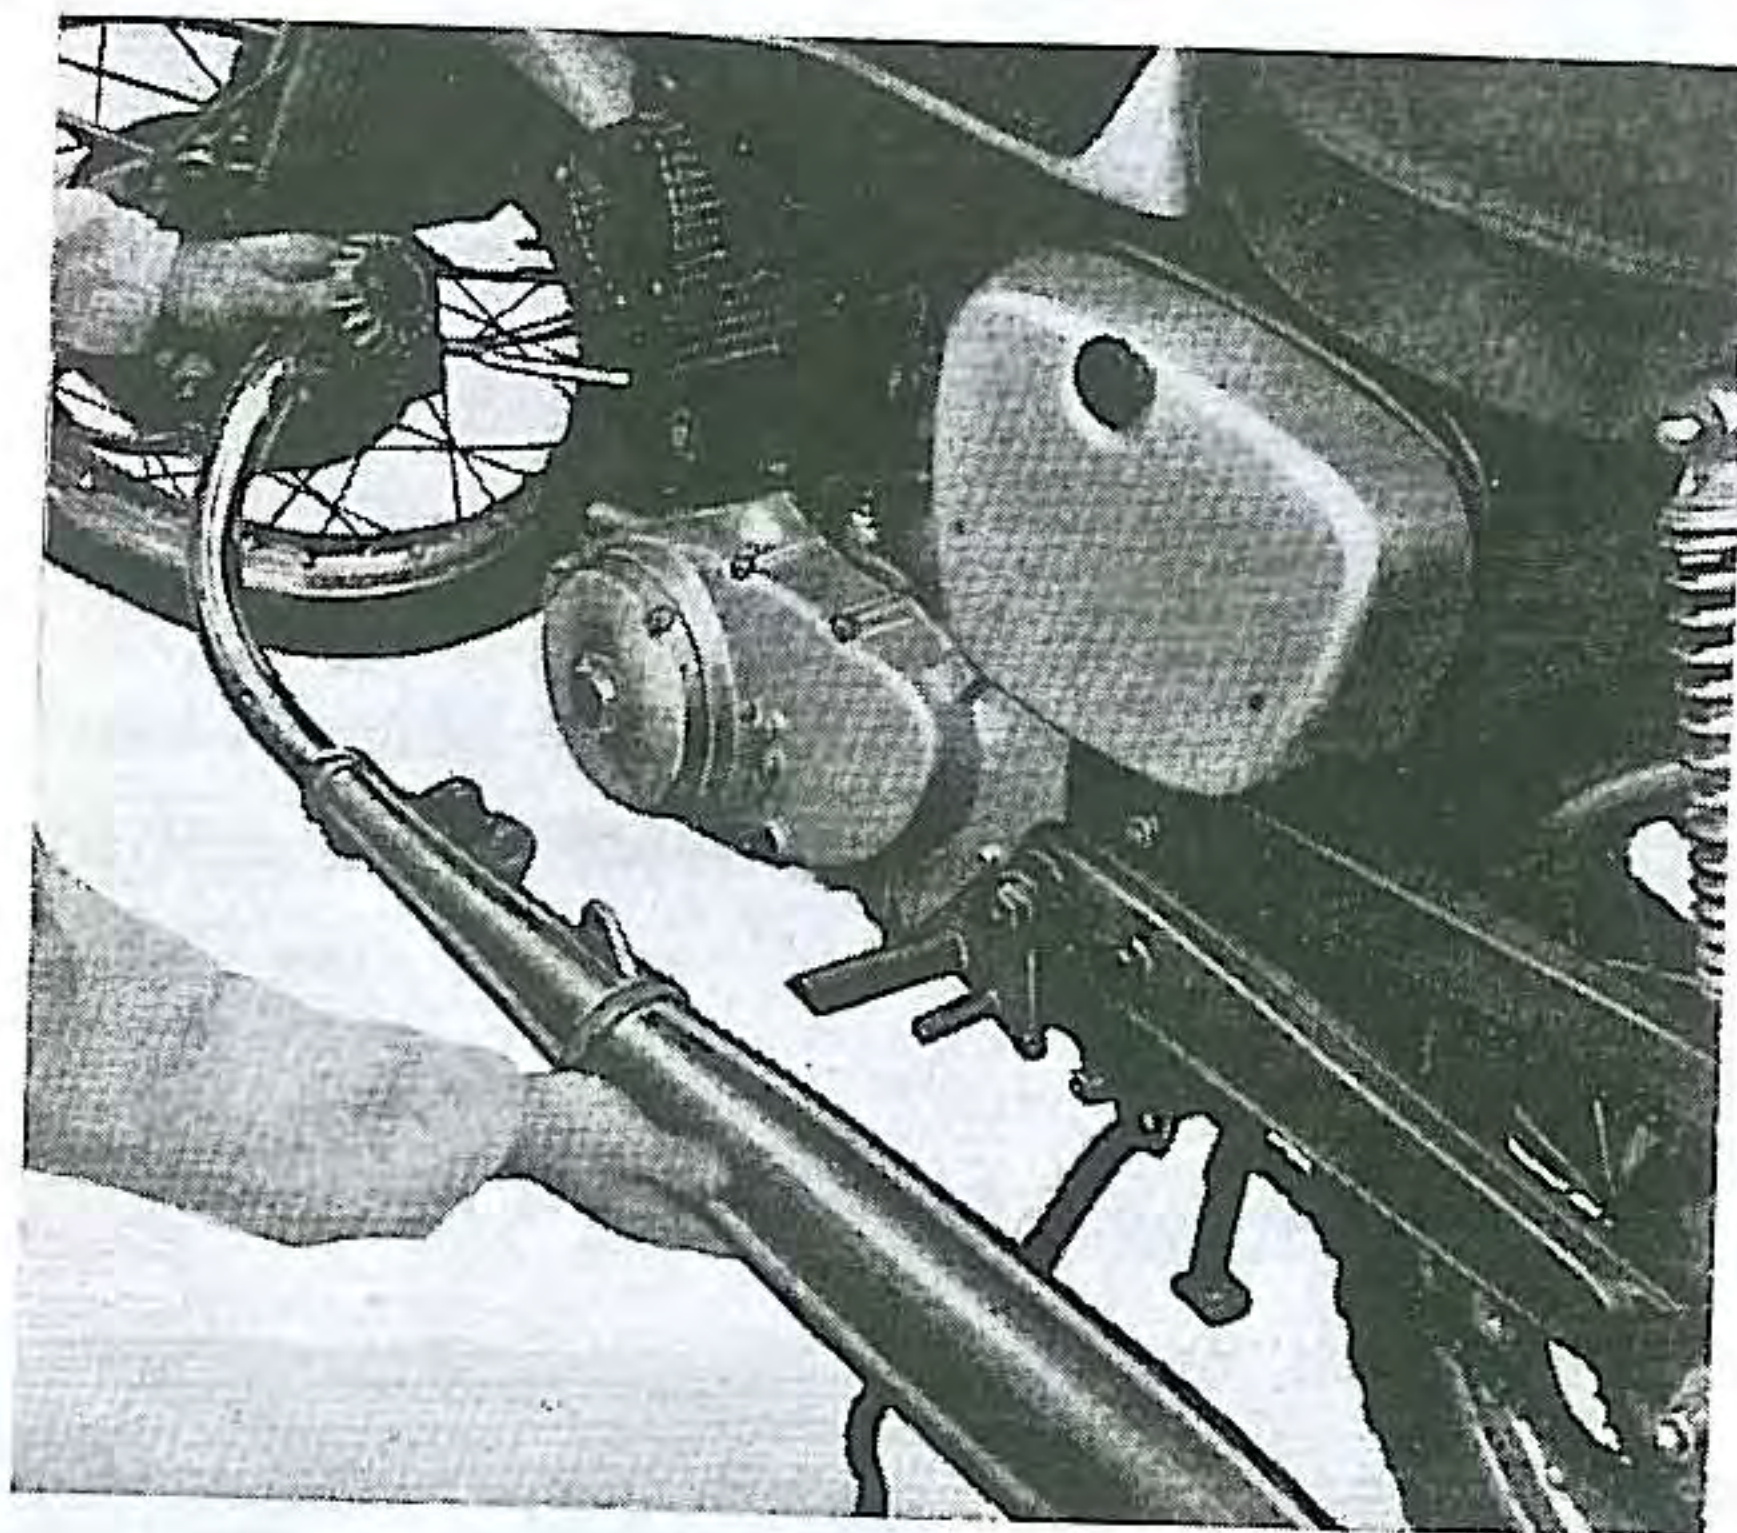

Fig. 8. Removing exhaust pipe and muffler box
- (2) Remove the exhaust pipes with muffler boxes on both side of the engine at the exhaust ports and muffler box brackets. (Fig. 8)